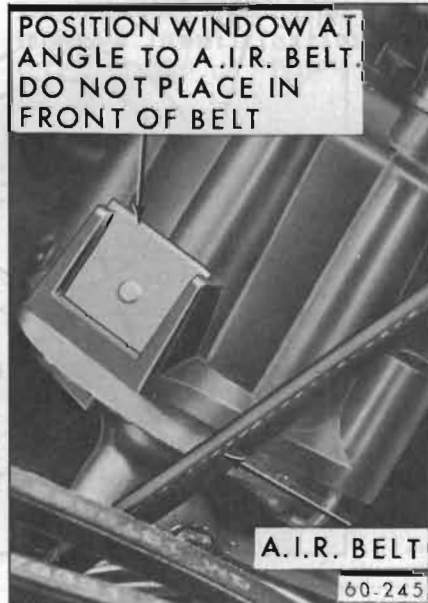

Figure 60-339—Distributor Position with A.I.R. Equipped
5. Position distributor as shown in Figure 60-339 so that the adjustment window is clear of the A.I.R. belt if equipped.